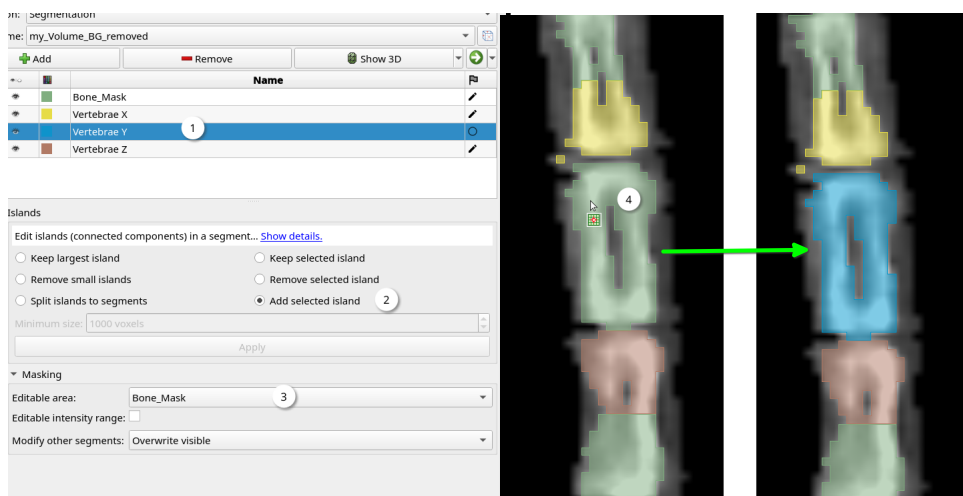

Figure 61: Manual segmentation via islands
- 6. Create segments** Create a segment for each structure that is going to be segmented and name them accordingly (figure 61:1).
- 7. Manually separate structures** Use manual tools like **Draw**, **Paint**, **Draw tube** to separate elements. Overwriting the mask segment created in the third step. This can be achieved by selecting the mask segment as the **Editable area** in the **Masking** options (figure 16:6, figure 61:3). Make sure to separate your target structure carefully in all planar views (figure 61:4).
- 8. Connect remaining islands** Use the **Islands** tool (figure 61:2) to connect the middle segment of the last step, effectively finishing the segmentation.